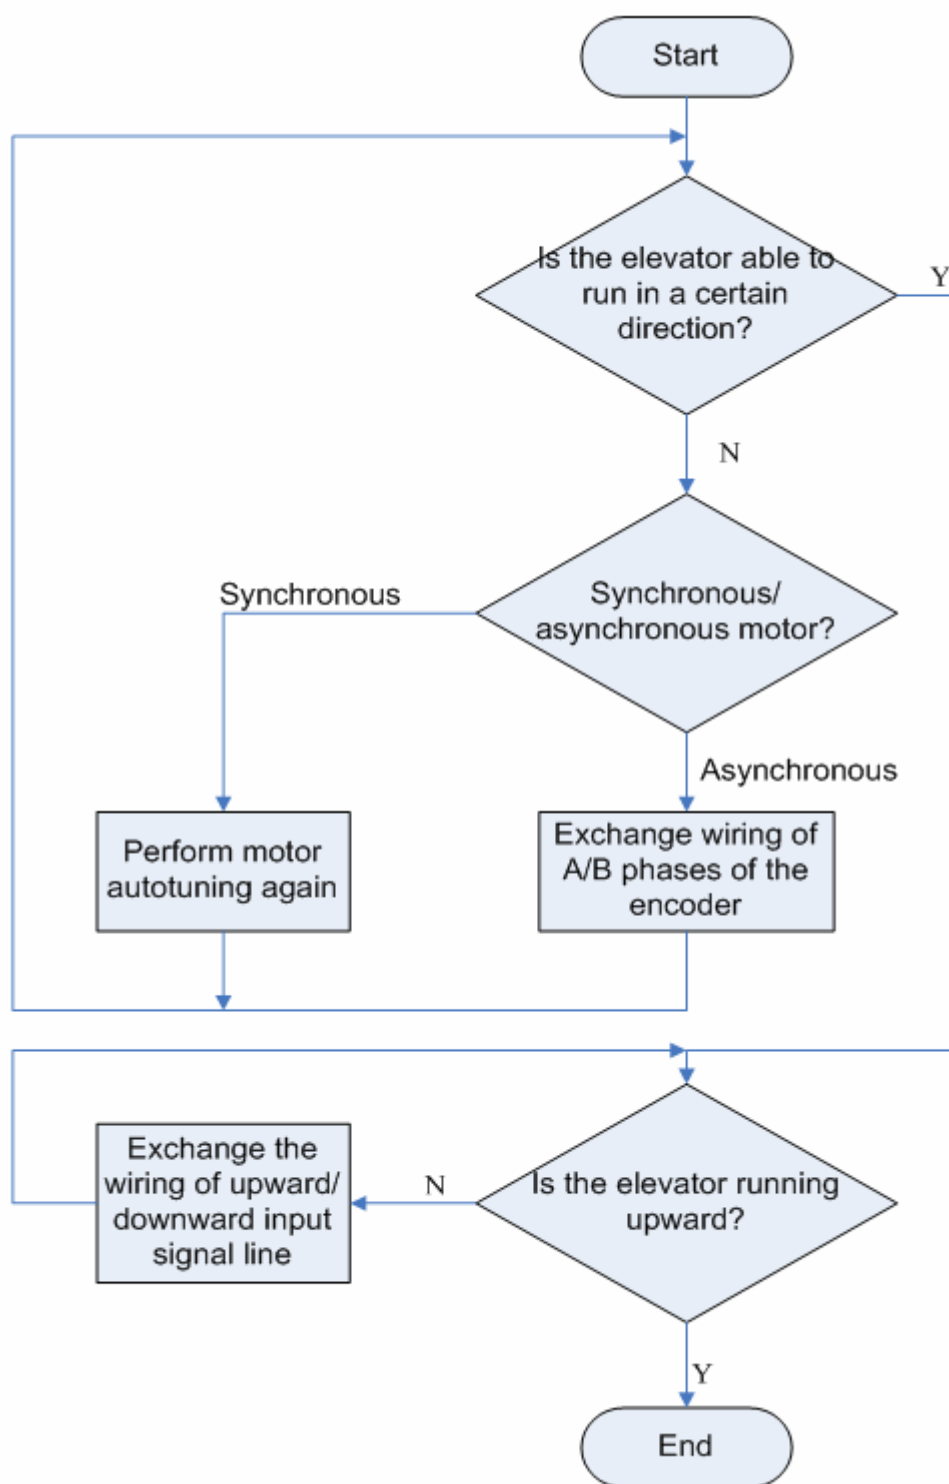

Figure 7.5 Upward running direction adjustment
(1) Let the elevator run upward in repair mode, adjust its running direction as shown in Figure 7.5: